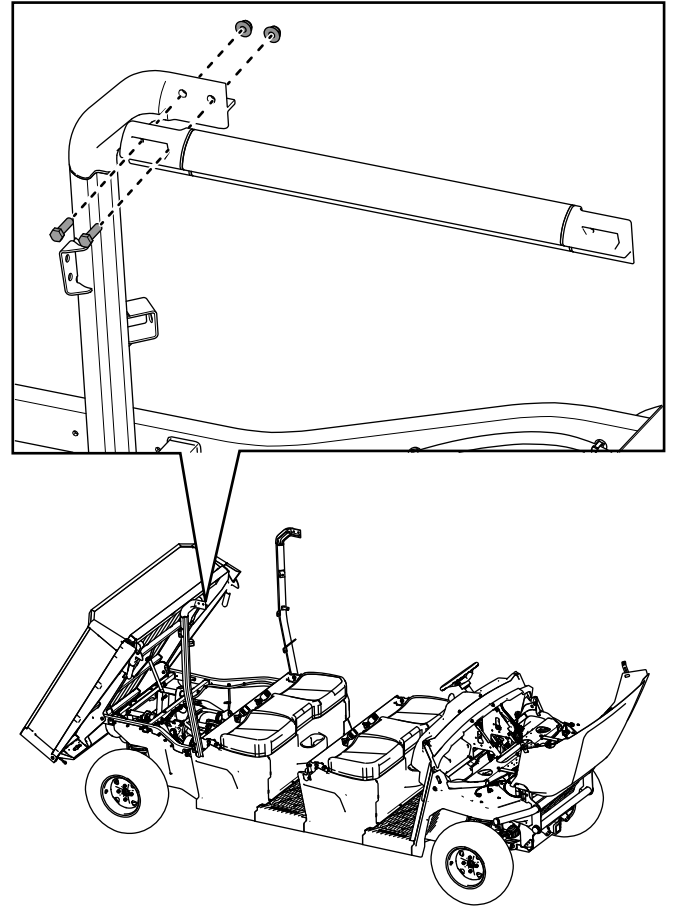

Figure 43
8. Loosely secure the right roll bar connector assembly to the right, rear roll bar assembly using 2 hex-head bolts (3/8 x 1-1/4 inches) and 2 locknuts (3/8 inch) as shown in Figure 43.